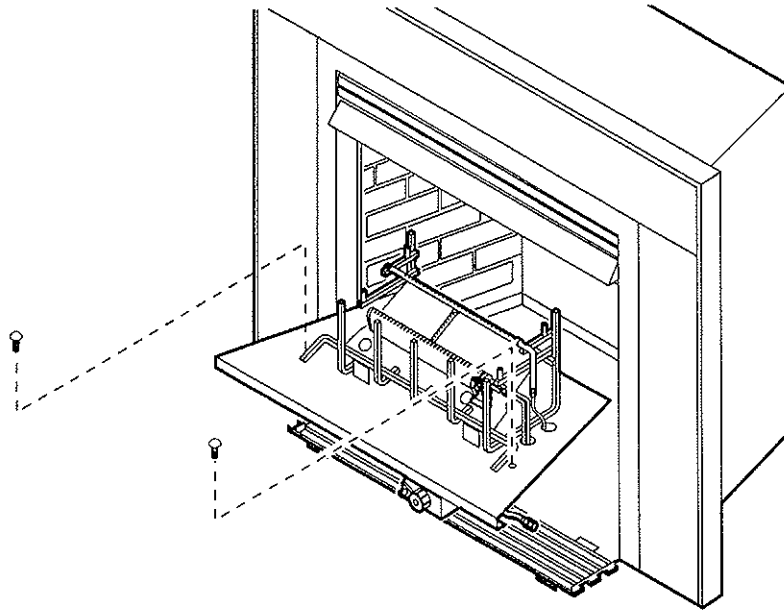

FIGURE 10.
- To remove the grate and base assembly, take out two screws as shown in *FIGURE 10*.